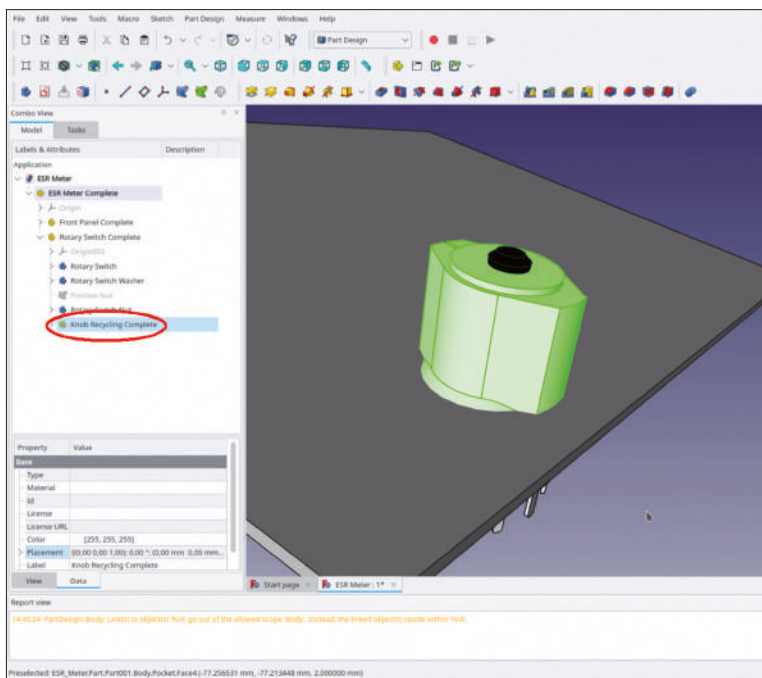

Figure 7-15
2. In the tree view, double-click the root node 'ESR Meter' (to set the paste destination) and insert the knob with CTRL-V. Then, drag-and-drop the new container into the Std-Part-Container 'Rotary Switch Complete'. Close the document 'Knob Recycling' (Figure 7-15). The placement of the knob is already correct in X and Y coordinates.